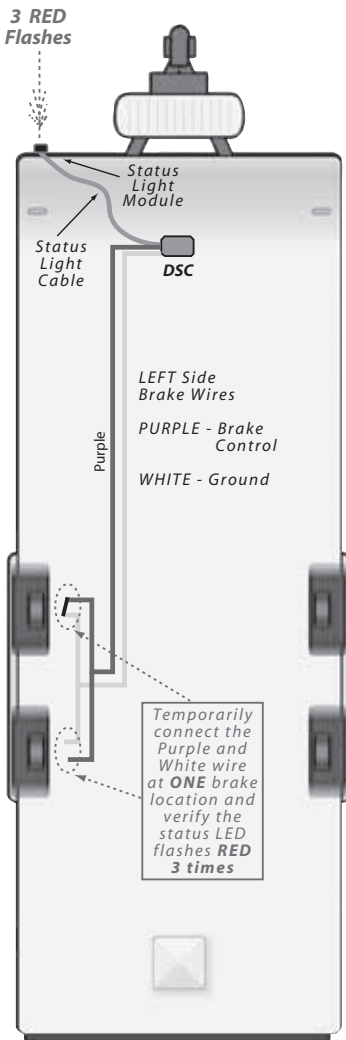
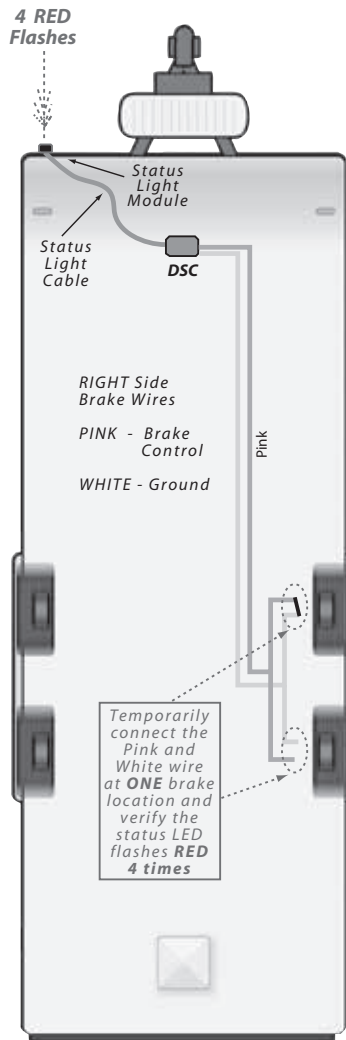

Figure 1
Figure 2
6. Refer to Figure 1 and Figure 2 on the following page to verify correct wiring on the left and right sides of the trailer. After the trailer passes the left side test, reconnect the left side brake as normal before repeating for the right side test.
7. If the DSC status light does not flash the correct number of times as indicated in Figures 1 and 2, make the necessary wiring changes so that the flashes match the correct side.
8. After the trailer passes the test as shown in Figures 1 and 2 and the brakes are reconnected as normal, verify that the GREEN flickering light is displayed. If it is not, refer to the troubleshooting section to correct the detected fault(s).